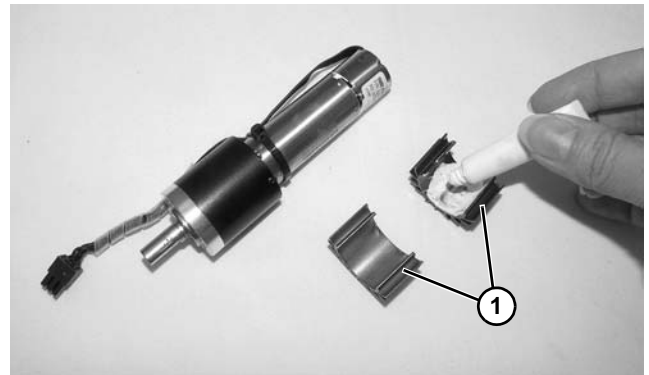

Figure 76
11. Add heat sink compound to heat sinks (**Figure 76, item 1**) before reinstalling to motor.